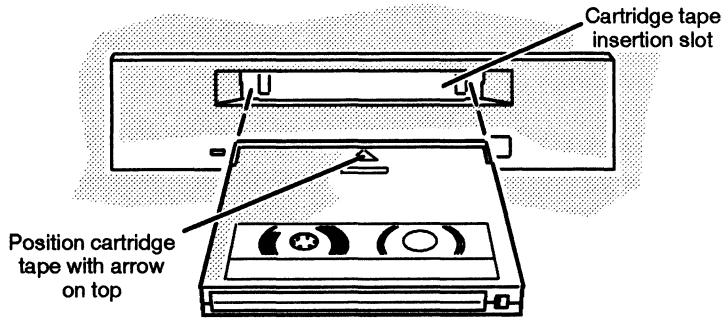

Figure 12 Inserting a cartridge tape in the 4-mm tape drive
3. Gently push the cartridge tape into the drive's cartridge-tape insertion slot with the arrow on the cartridge positioned up (Figure 12).
3. Make sure you positioned the cartridge with the arrow up and pointing toward the drive. Refer to Figure 12.